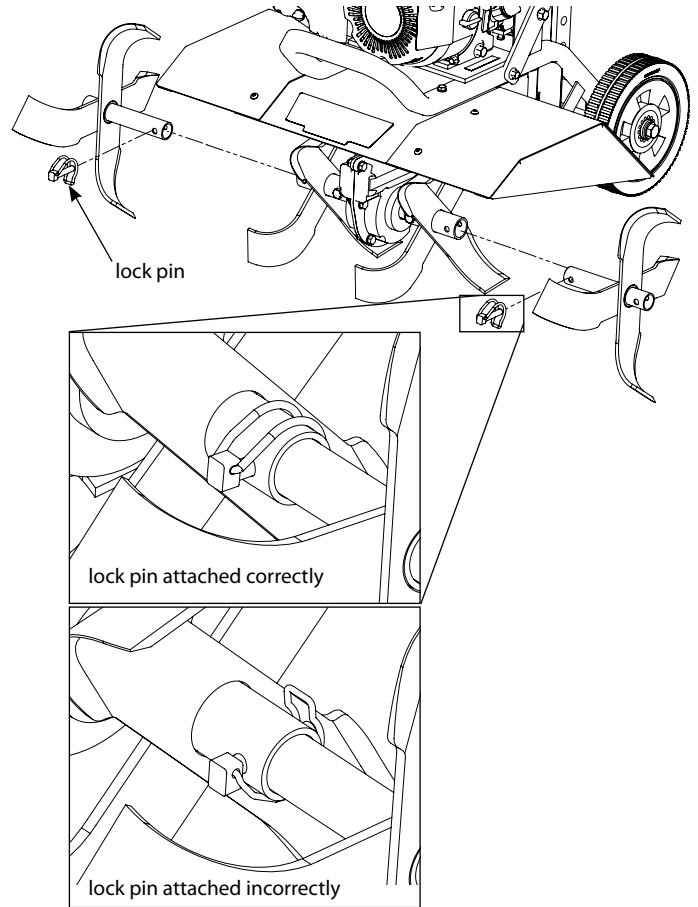

Figure 5
6. Assemble tines to unit. Sharp edges of tines will be away from the operator at the top or facedown at front of machine. Fasten outer tines to the inner tines using the 8mm x 40mm lock pins already affixed to the inner tines. Lock pins must be installed so that the pin enters the hole in the tine from the front of the tiller, and so the wire bale hinges over the top of the tine pipe and latches to the protruding pin on the back side of the tine. **SEE FIGURE 5.**